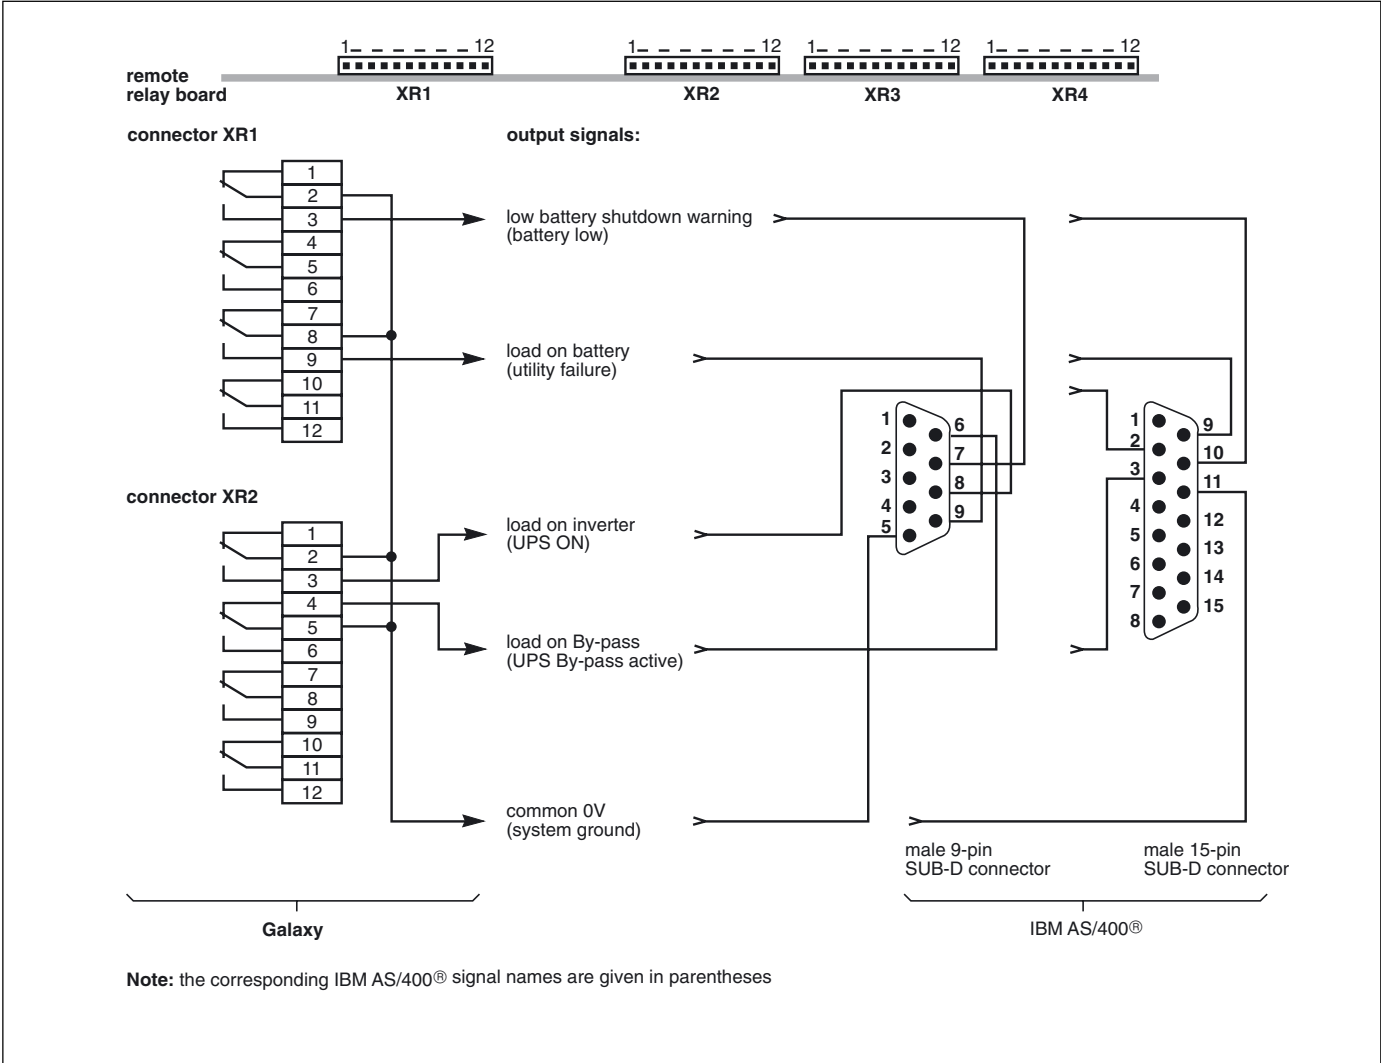

Fig. 28
- ▶ see figure 28 for the wiring diagram. A five-wire cable (not supplied) is required;